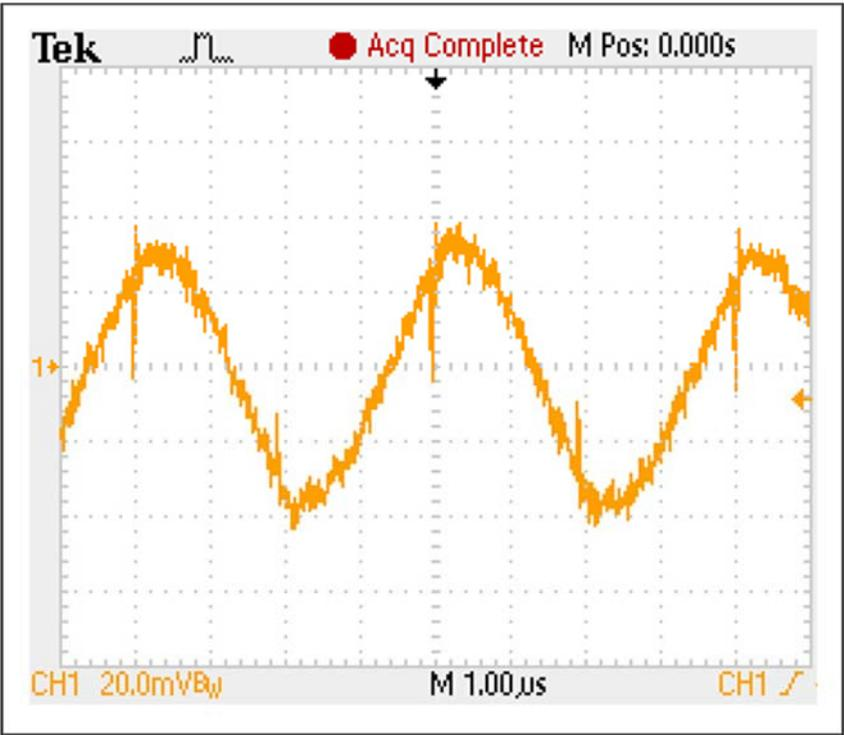

Figure 3. Output ripple at 10A load.
**Figure 3** display the output ripple at full load (ripple + spike is  $\pm 40\text{mV}$ ) when the input is 24V.